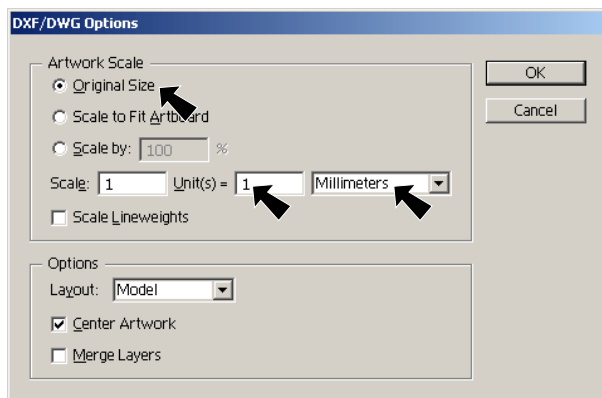

Fig. 11
Step 2. In DXF/DWG Option dialog box: under Artwork Scale, **Fig. 11** select **Original Size** set units **Millimeters** set **Unit(s) = 1** and click OK, **Fig. 12**.